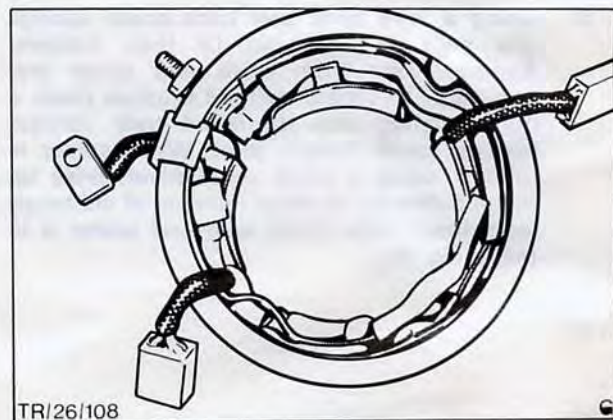

Fig. 64. Yoke assembly
9. Before disturbing original fitting of field coils in yoke pay particular attention to following, Fig. 64.